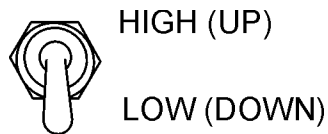

Figure 40. Engine Speed Switch
2. Set the engine speed switch (Figure 40) to the idle (low) position.